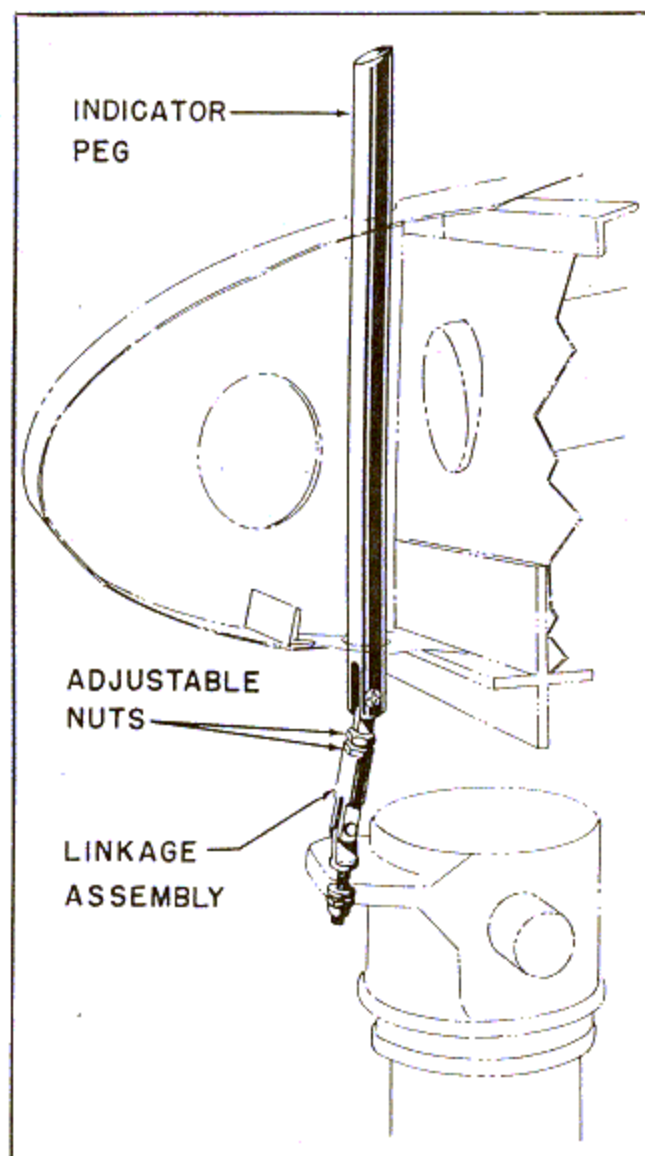

Figure 136—Landing Gear Visual Position Indicator
(d) VISUAL LANDING GEAR POSITION INDICATORS. (See figure 136.)
1. The visual position indicators (supplementing the warning light system) are two yellow painted pegs located atop each wing panel directly above the oleo struts. Linked to the lip on the oleo upper trunnion as shown in figure 136, these pegs, acting independently, rise and fall as the struts are extended and retracted, visually indicating to the pilot the position of the main landing gear units. When the landing gear legs are in the fully retracted position, the pegs disappear flush with the panel surface.
2. Normally this simple mechanism will require no adjustment, but if necessary the travel of the peg may be regulated by turning the two adjustable nuts on the linkage shown in figure 136.